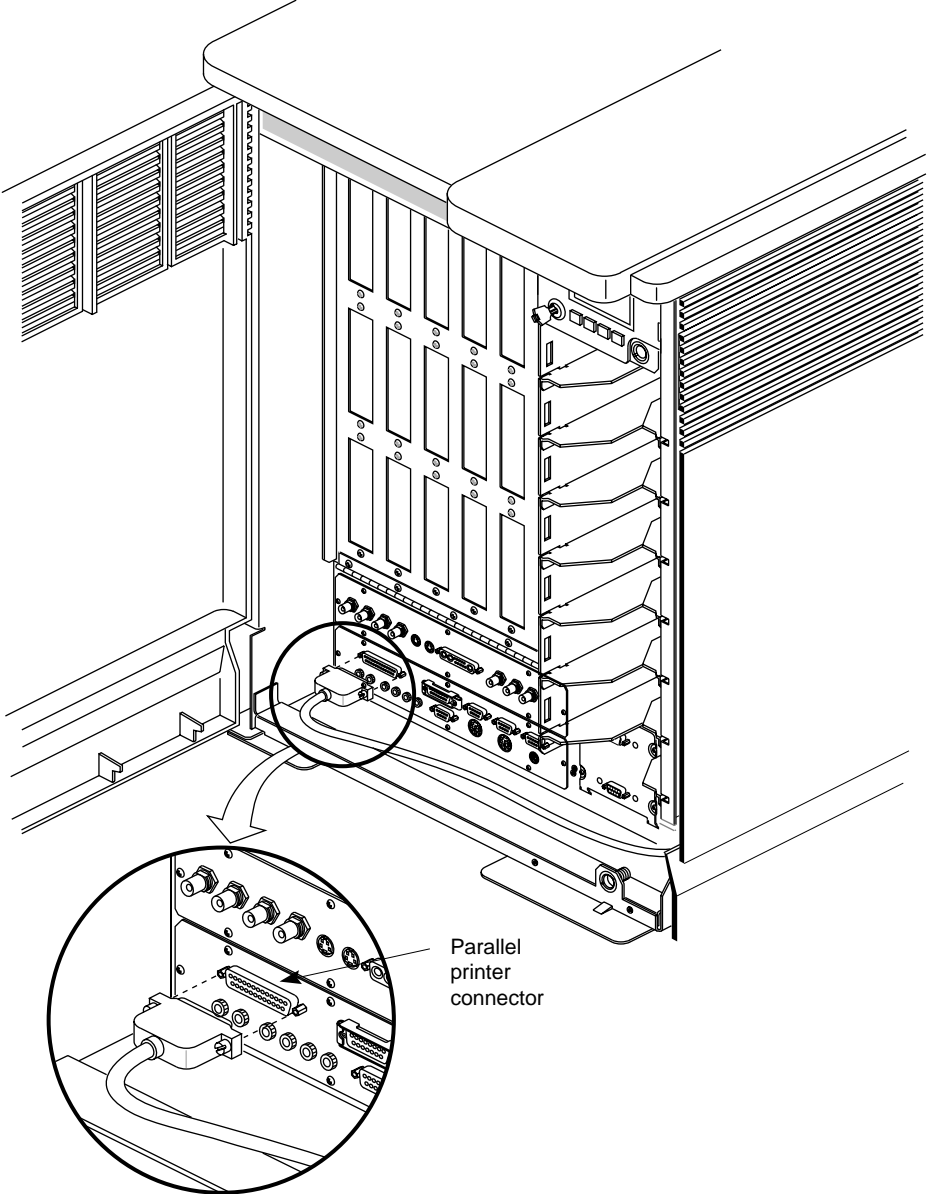

Figure 4-15 Connecting a Parallel Printer Cable
1. Locate the 25-pin, sub-D parallel connector on the main I/O panel (see Figure 4-15).